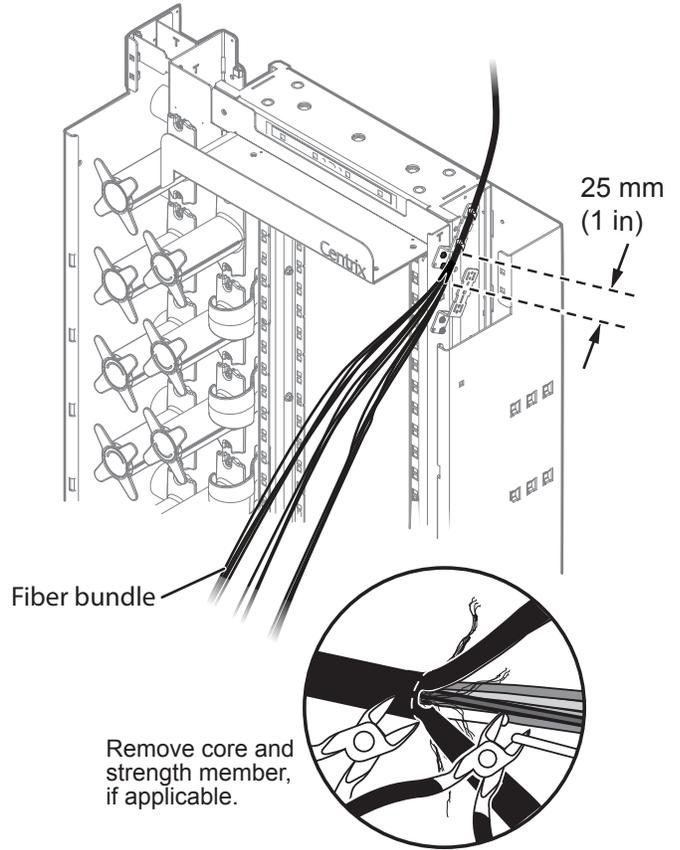

Figure 4
**Step 3:** Cut away sheath to 25 mm (1 in) past the strain-relief point at the housing (Figure 4).